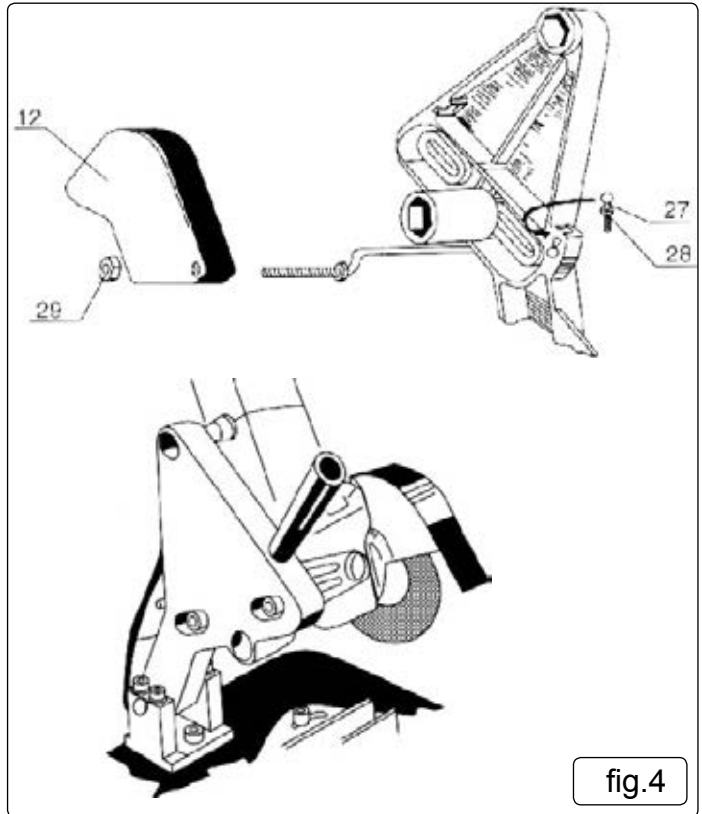

fig.4
- 4.8. Fix the protective guard. (fig.4.)